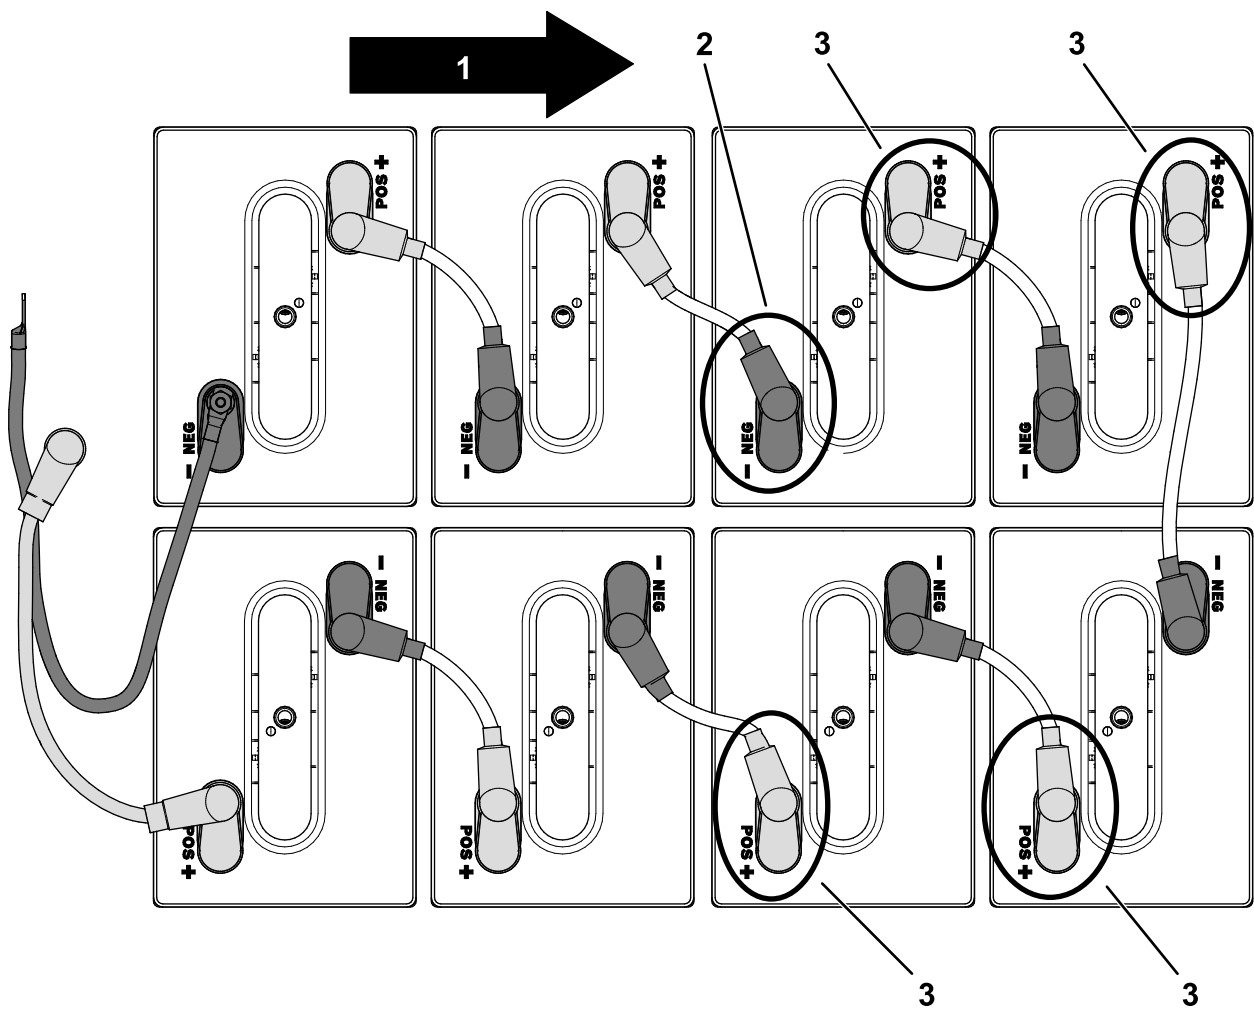

Figure 58
3. Disconnect the positive (+) terminal on the front 4 batteries in the front battery tray (Figure 58).
4. Disconnect the negative (-) terminal as shown in Figure 58.
5. Remove the front 4 batteries (Figure 58).